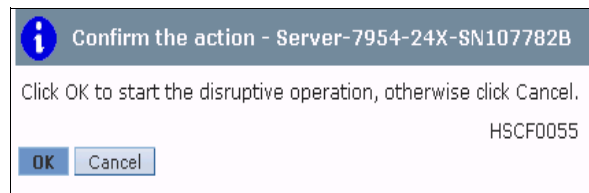

Figure 7-128 Disruptive operation confirmation
13. Figure 7-128 shows a final confirmation to continue with a disruptive update or the option to cancel. Click **OK** to continue.